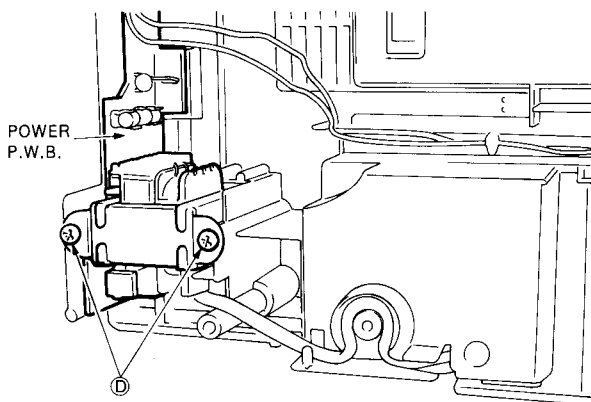

Fig. 5
**5. Removing Power P.W.B. (Fig. 5)**